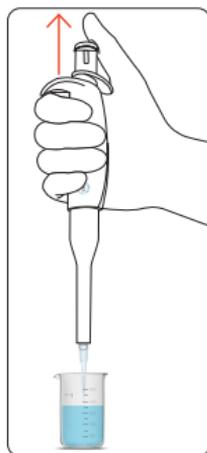

Figure 7. Hold the pipette vertically to aspirate
▶ While pipetting, hold the pipette vertically, so that the tip does not touch the vessel wall. (figure 7)